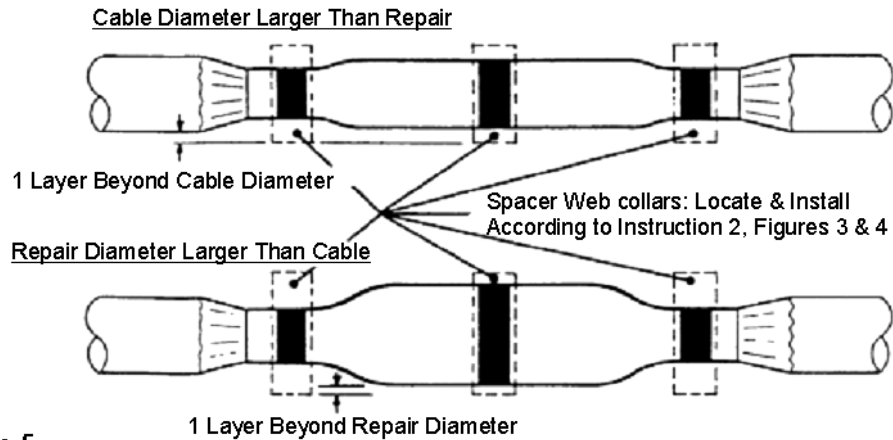

Figure 5
2. Wrap on spacer web collar(s); build *EQUAL DIAMETERS* to 1 layer greater than repair or cable diameter, whichever is largest. (Figure 5) *Locate and install collars according to INSTRUCTION 2, FIGURES 3 & 4, PAGE 7*.